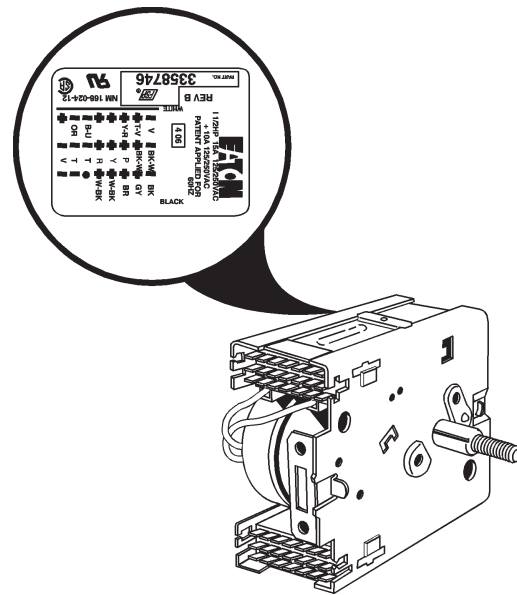

Fig. 3-5
1. To remove the timer knob, push the knob in from the front and unscrew it from the timer shaft. (Fig. 3-5)
3. Remove the two (2) Hex-head screws securing the timer assembly to the console mounting plate.